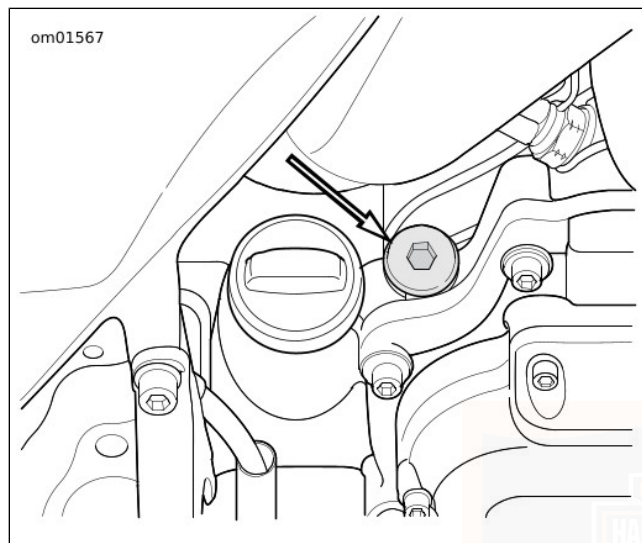

Figure 87. Transmission Filler Plug/Dipstick Location
2. See Figure 87. Remove transmission filler plug/dipstick. Wipe dipstick clean.